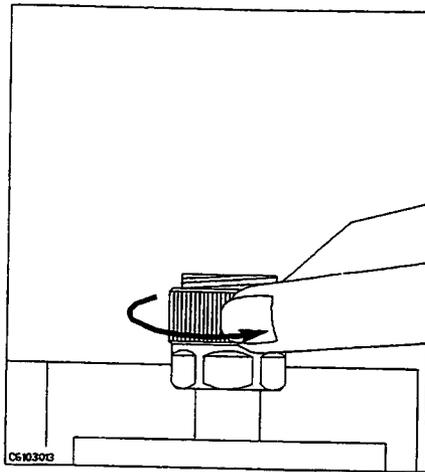

Figure 5-13.
1. Turn the APC-7® connector on the test head as shown in Figure 5-13.